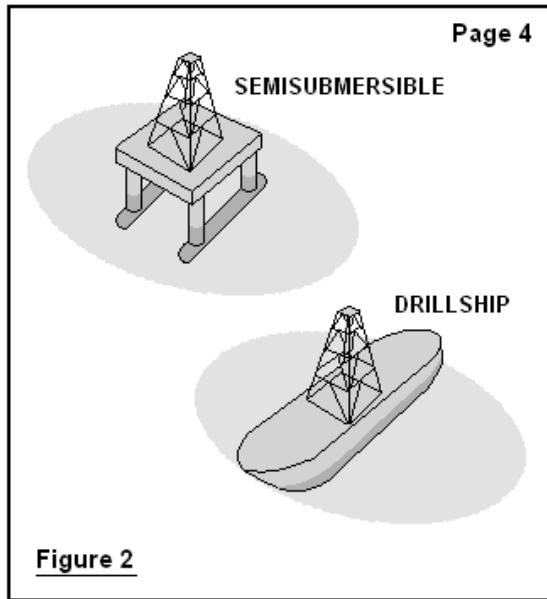

Figure 2
3.0 Syntactic foam buoyancy is normally required only on “floating” exploration drill rigs. “Fixed” drilling platforms such as *jackups* do not require buoyancy because they rest directly on the ocean floor. The two main types of “floating” rigs are shown in **Figure 2**.